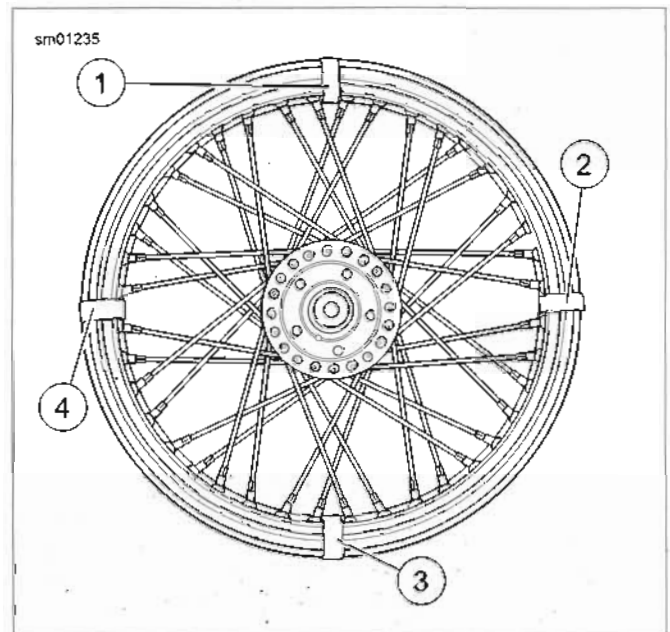

Figure 2-18. Marking Spoke Groups
- See Figure 2-18. Place a piece of tape to mark the center of each group of four spokes as shown. The groups should be directly opposite one another and approximately 90 degrees apart. Using different colors of tape or numbering each group is helpful.